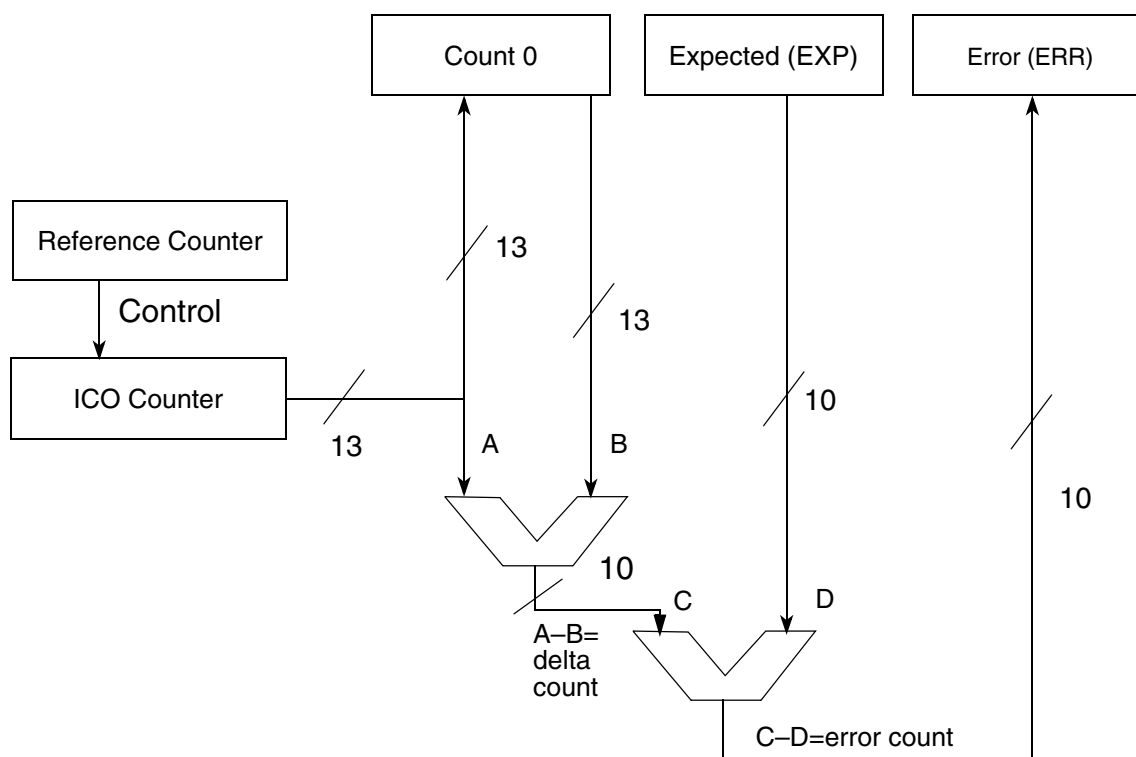
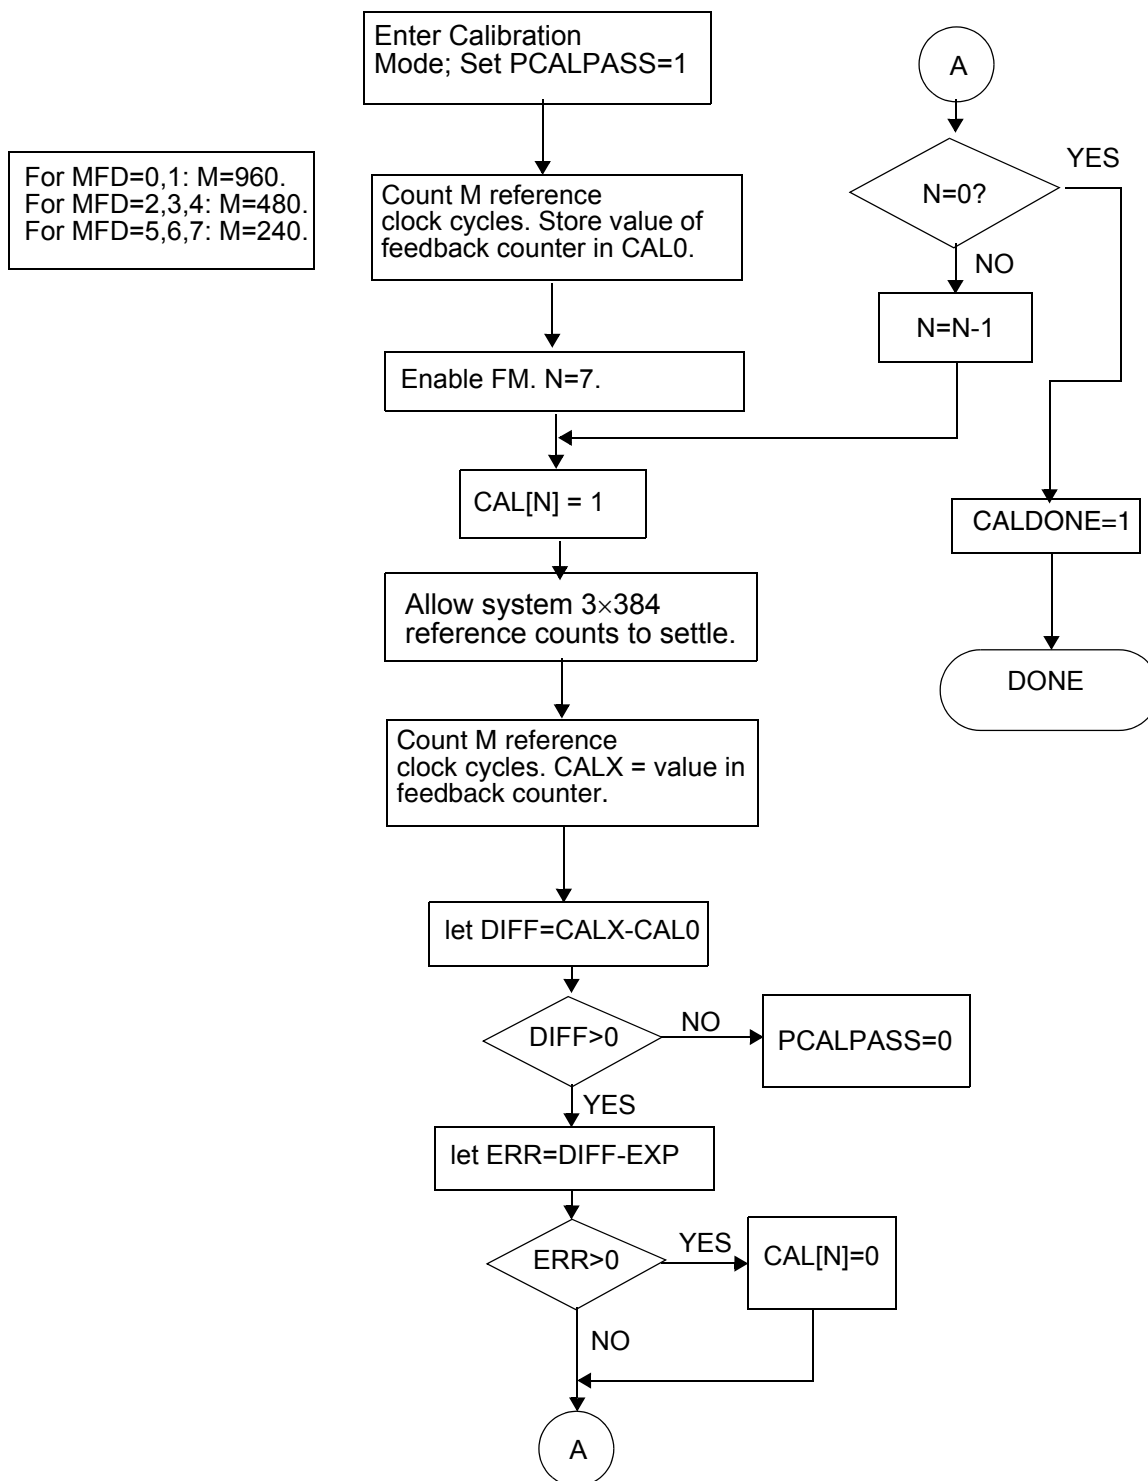

Figure 7-7. FM Auto-Calibration Data Flow
Figure 7-8. FM Auto-calibration Flow Chart
For the value of MFD = 4, the number of reference clock cycles to be counted (M) would be 480. Refer to Figure 7-8 for a complete list of values to be used for the variable (M) based on MFD setting. To obtain a percent modulation (P) of 1%, the EXP field would have to be set at:
Figure 7-7 shows a block diagram of the calibration circuitry and its associated registers. Figure 7-8 shows a flow chart showing the steps taken by the calibration circuit.